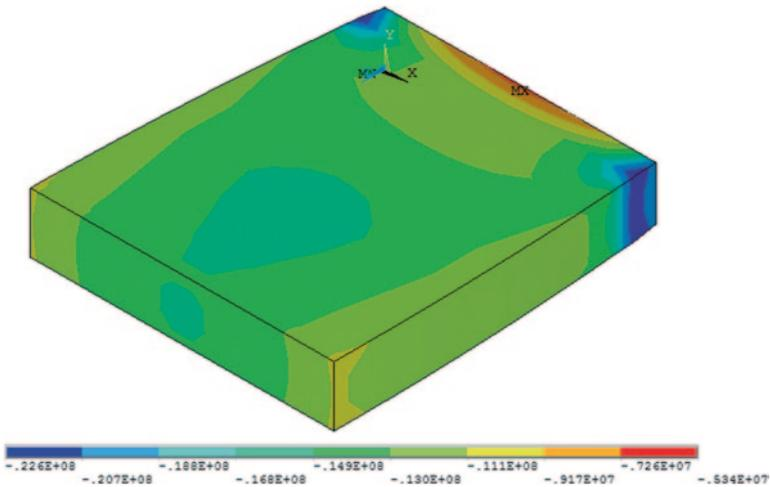

Fig. 9.63 Contour plot of the stresses in the z -direction due to thermal loading at load step 1, substep 22
- The thermomechanical solution may be repeated for any substep of interest. Figure 9.63 shows the contour plots of normal stress in the z -direction for substep 22 (last substep).